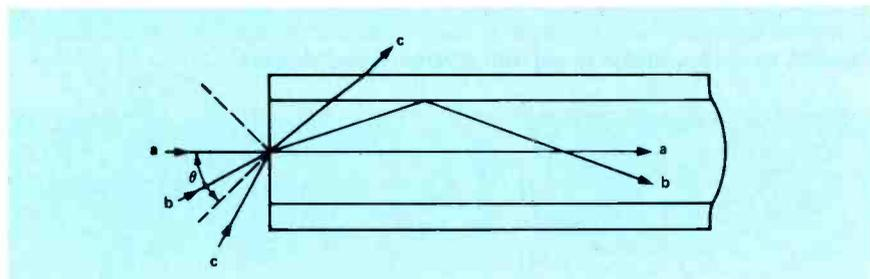

Figure 5. The critical angle,  $\theta_c$ , is also known as the maximum propagation angle.
Figure 5 shows three light rays, a, b and c, entering an optical fiber. Ray a enters the fiber along the longitudinal axis and travels down the cable as shown. Ray b enters the cable at an angle to the longitudinal axis less than the angle  $\theta$  and is reflected down the cable as shown. Ray c enters the
NA is equal to the square root of the difference between the square of the peak value of the reflective indices of the core and the cladding, which is also equal to the sine of  $\theta$ . The NA for most fibers falls between 0.1 and 0.3 which approximately corresponds to the sines of angles between 5.7 and 17.4 degrees. As shown in Figure 5, these are  $\frac{1}{2}$  angles. Two things to remember about light acceptance are (1) only the light entering the fiber at a small angle to its longitudinal axis will travel down the fiber and (2) the greater the difference between the reflective indices of the core and cladding, the larger this angle will be.